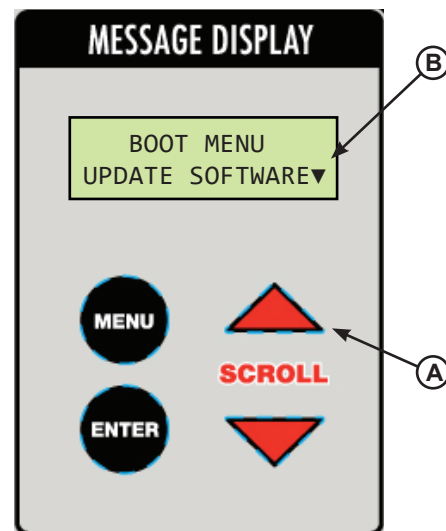

Figure 4
6. Press and hold the UP button (A) on the control box (see Figure 4).
7. While holding the UP button (A) on the control box, restore power to the controls.
8. When Message Display (B) shows "BOOT MENU," release UP button (A, see Figure 4).